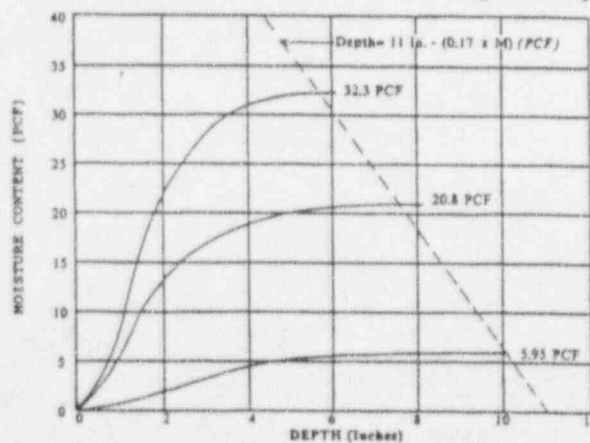

Figure 3
- ◆ "Depth of Measurement", or the depth at which 95 percent of the counted neutrons pass before reaching the detector, is generally a function of the moisture content. The normalized curve shown in Figure 3 illustrates the effects of moisture content on the radius of measurement.